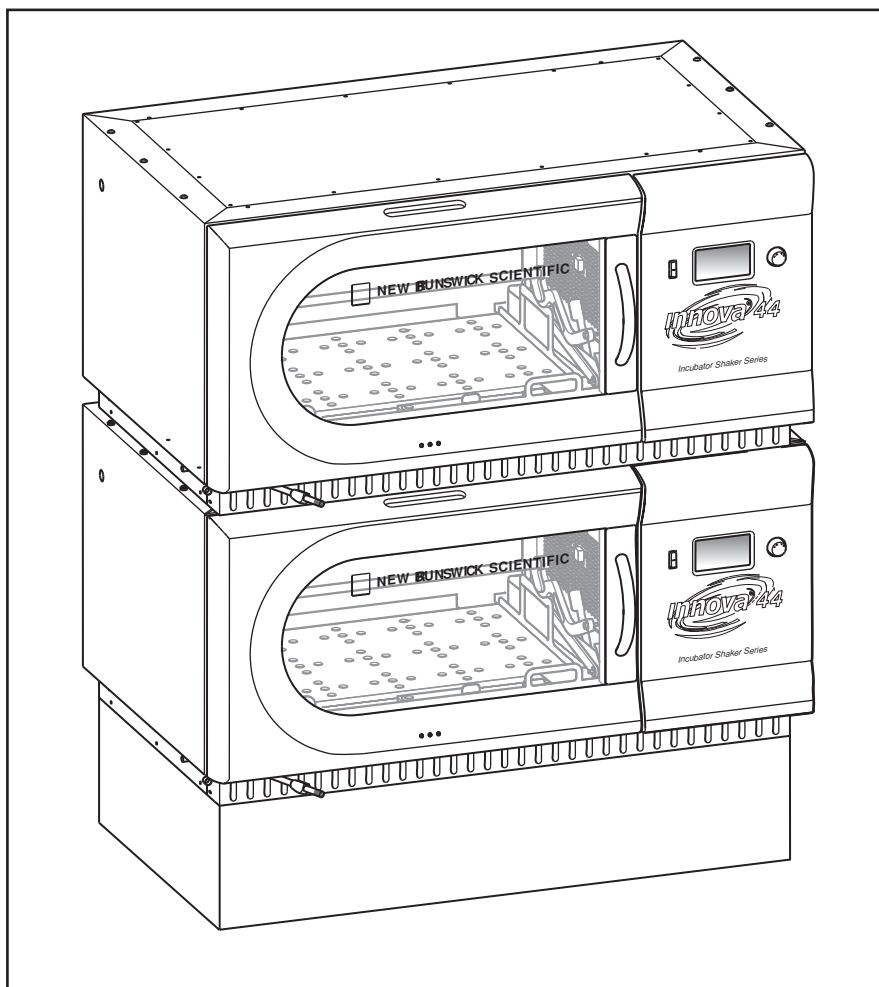

Fig. 6-7: Stacked Shakers
4. As shown (see Fig. 6-7 on p. 30), secure the bottom of the upper shaker to the mounting brackets (already fastened to the shaker below) with the screws, lock washers and washers provided.